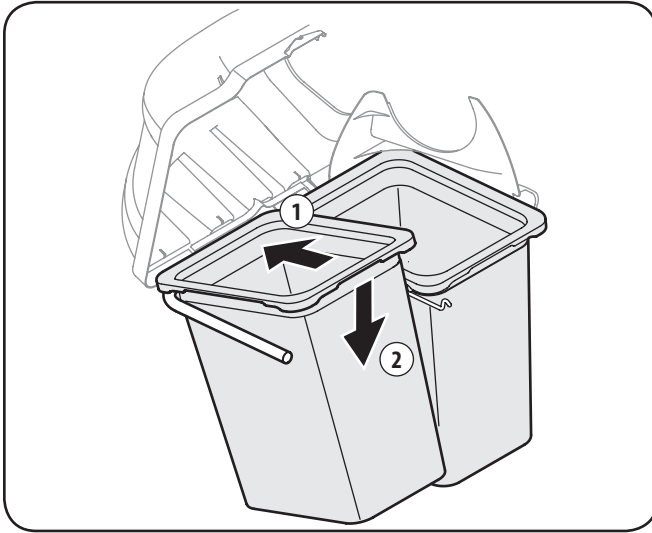

Figure 4-13
7. Install both bag assemblies onto the bag support brackets by inserting the front edge in first, as shown in 1 of Figure 4-13, and setting the back edge down until it fits into the assembly (2).